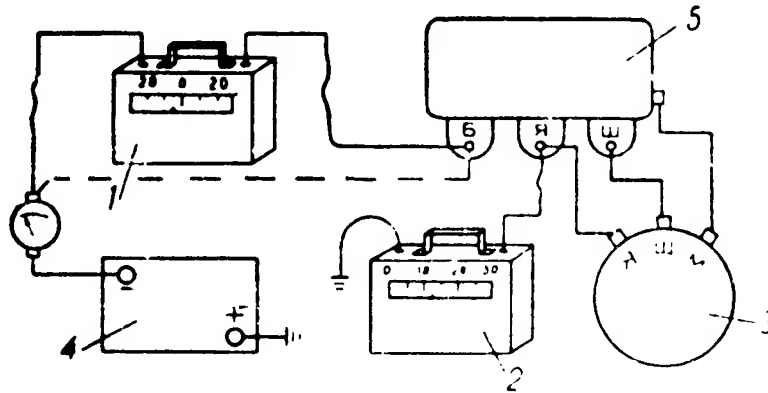

Fig. 38. Current and Voltage Regulator Checking Diagram
The circuit breaker is checked as follows (Fig. 38):
2. Cut in a check ammeter as shown in Fig. 38.